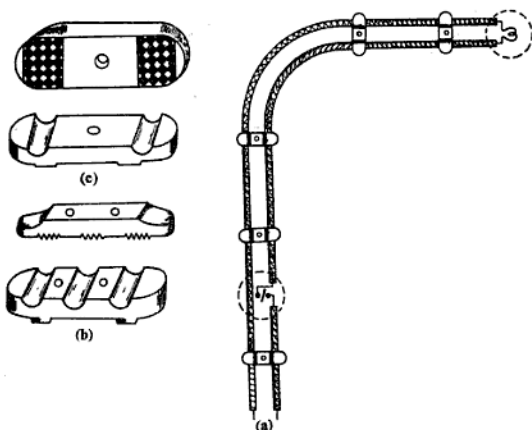

Fig. 10.3 (a) Cleat wiring
**(i) Cleat Wiring System** This is a very simple system and also the cheapest method of running wires (shown in Fig. 10.3) and is used for temporary lighting at dry places. The wiring is run in the visible condition except in places where they are likely to be protected from mechanical damage and less than 1.5 m above the ground level. Single-core V.I.R. cables or P.V.C. insulated cables are used in this system.